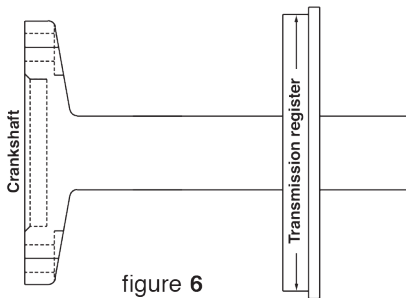

figure 6
**Method 3** Use a commercially available flywheel housing alignment tool (figure 6) which bolts directly to the crankshaft flange and has an appropriate diameter flange which registers in the bore of your flywheel housing, positioning the flywheel housing in the proper location respective to the crankshaft center line. Install and evenly torque housing attachment bolts. Ream over size dowel pin holes, insert oversize pins. Re-check bore and face with an indicator to insure housing bore remains within specifications.